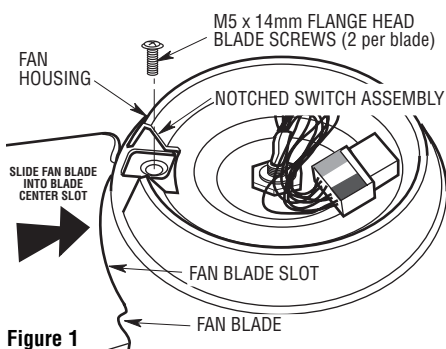

Figure 1
- ☐ 2. Rotate the notched switch assembly to expose the holes for blade assembly (Figure 1).
- ☐ 3. Slide blade through blade slot in blade housing assembly. Mount blade to fan housing using two M5 x 14mm flange head blade screws (Figure 1).